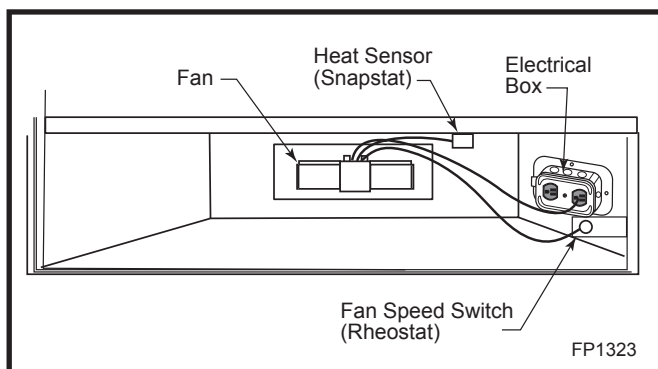

Fig. 31 FK26 fan placement.
1. Place fan assembly at the back of the unit between hearth supports. Attach using velcro strips provided. (Fig. 31)